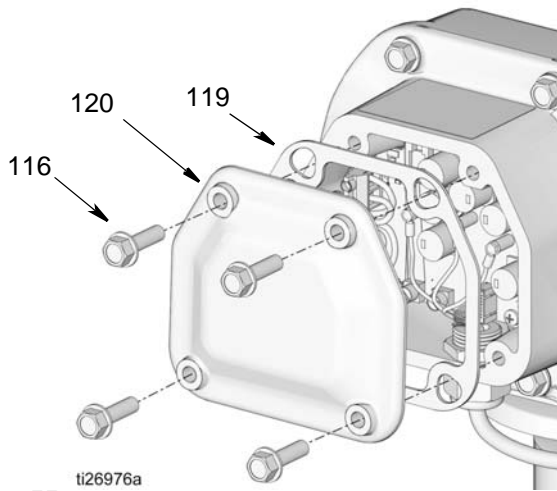

FIG. 55
- Remove screws (116) from motor control box cover (120) and remove cover and gasket (119) (FIG. 55).